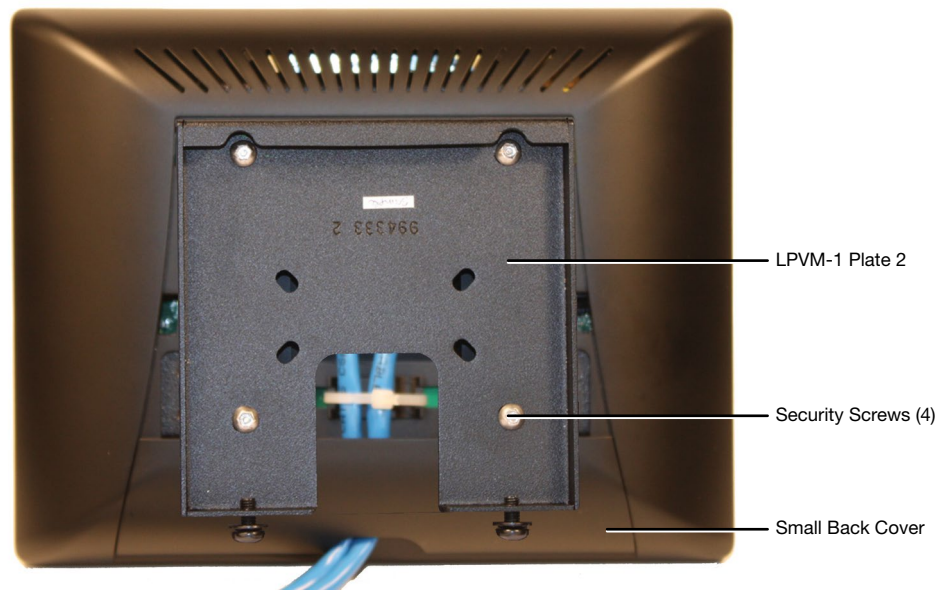

Figure 47. VESA Mounting the TLP 710TV with the LPVM-1
4. Secure a VESA D 75 mm mount kit to the back of the TLP 710TV. Follow the instructions provided with the mounting kit. Figure 47, below, shows the Extron LPVM-1 mount kit.